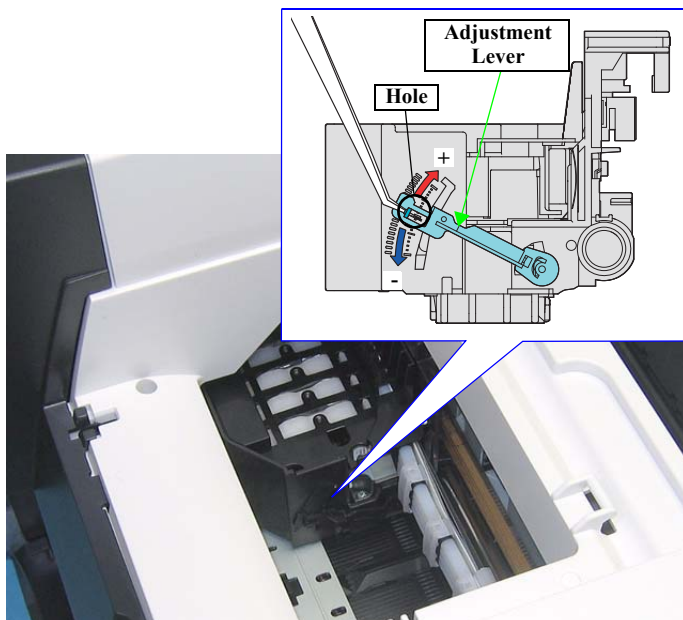

Figure 5-13. Head angular adjustment (3)
6. Move the Adjustment Lever to the direction confirmed in Step 4 using tweezers or a similar tool by inserting them into the hole on the lever shown in Fig. 5-13.